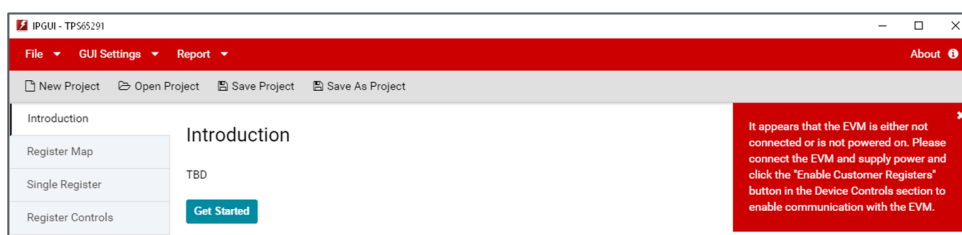

Figure 20. Failed GUI Communication to TPS65291 Notification
- The TPS65291 *Introduction* tab is now displayed. If a red notification appears (as in Figure 20), it indicates the computer can talk to the USB2ANY but cannot communicate with the TPS65291 device. The primary cause of this issue may be that the power supply is not turned on or a cable is unplugged. In case of either issue, the test setup of the EVM must be debugged before continuing.